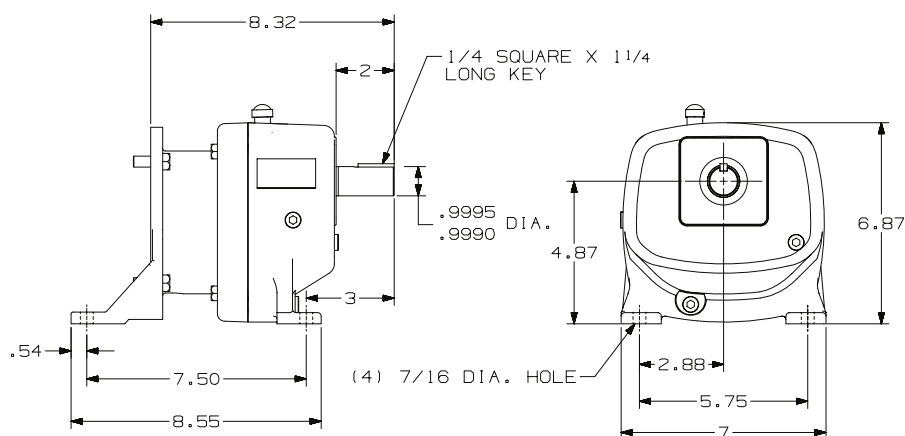

Figure 2
- Figure 2 - Attaching the Motor**